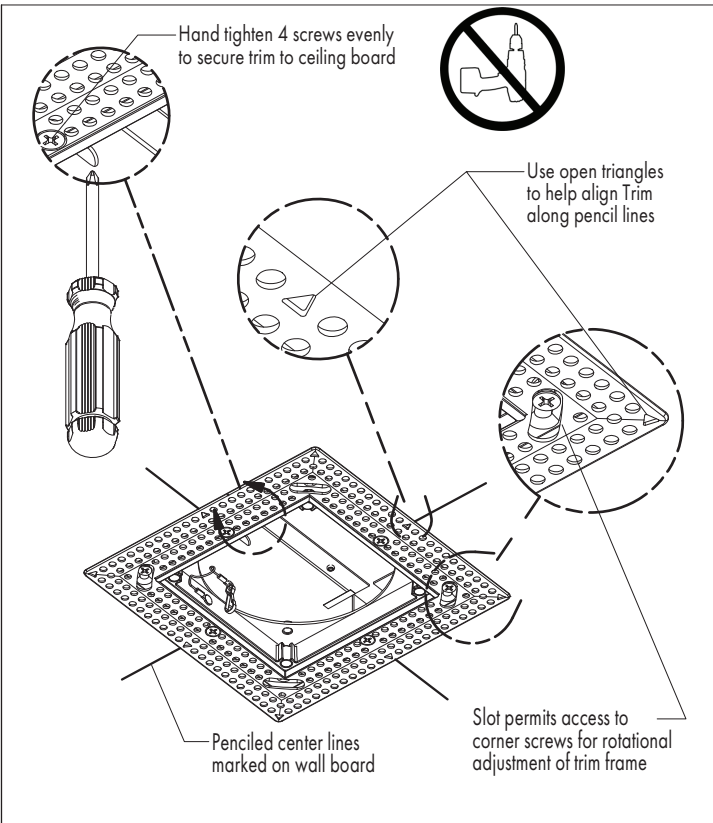

FIG 3.3 Install & Adjust Trim (for Single & Multi-Lamp)
housing by hand tightening 4 screws until trim is secured against ceiling board-**FIG 3.3**.
STEP 5 Install trim to housing by hand tightening 4 screws until trim is secured against ceiling board-**FIG 3.3**.